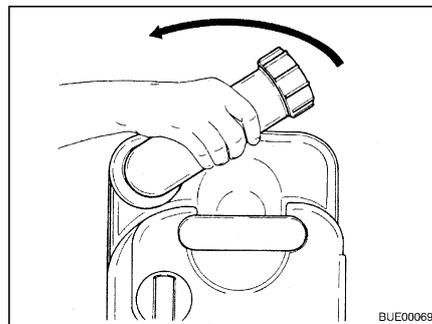

Fig. 189 Turning drainage neck
- Turn the drainage neck upwards (Fig. 189).